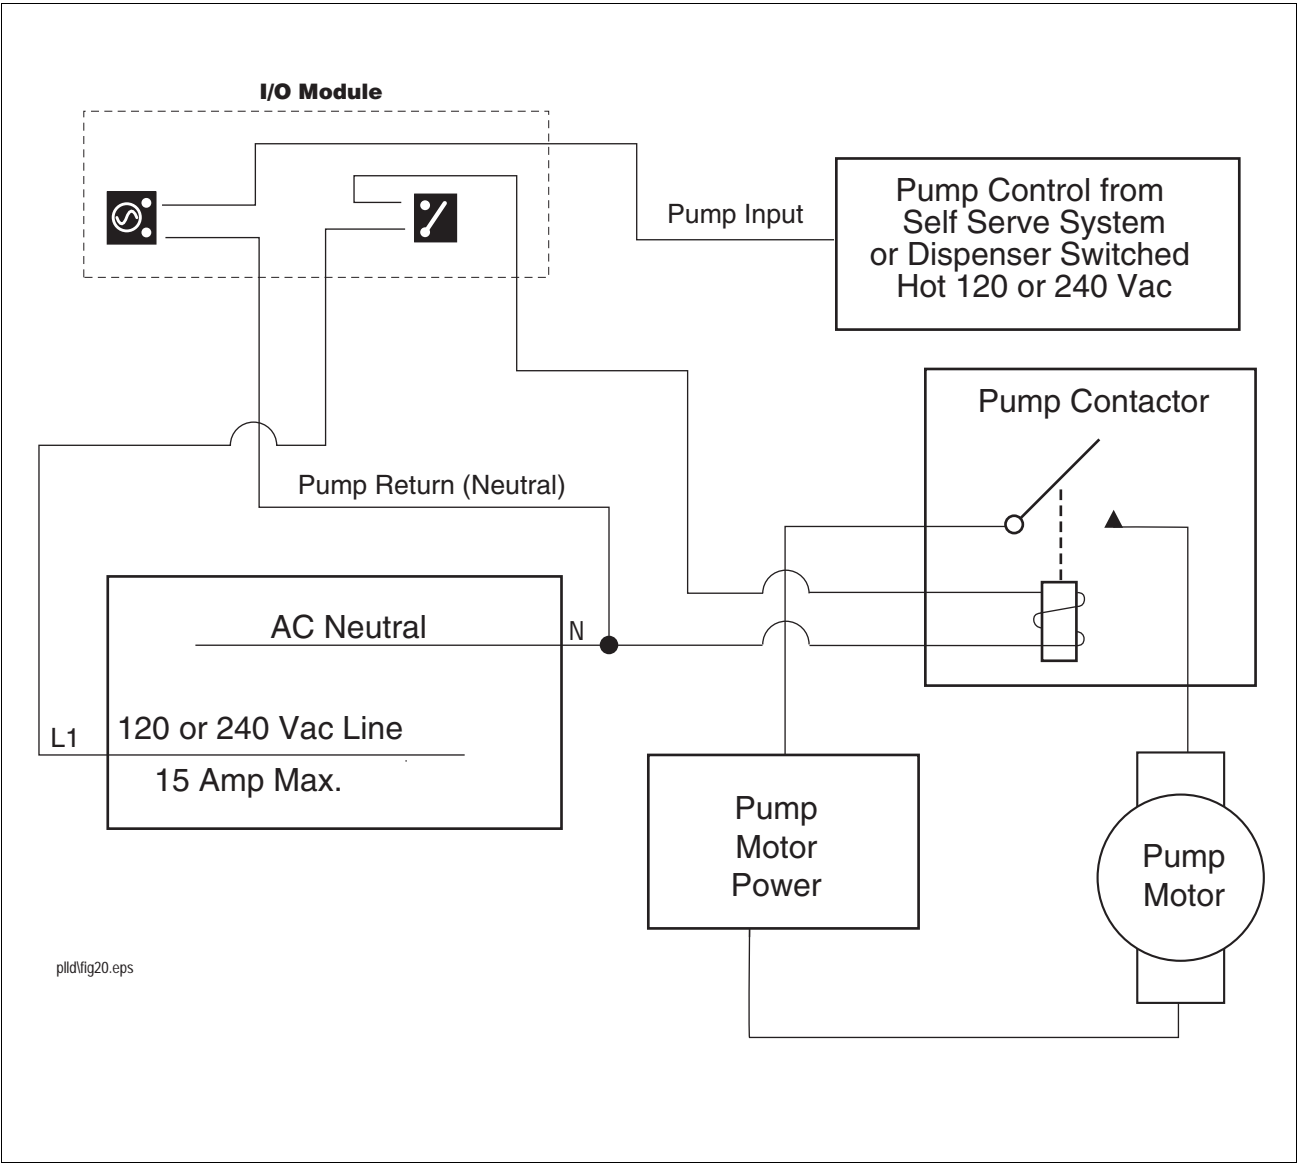

Figure 20. DPLLD pump control diagram for non-Red Jacket relay control box
- Non-Red Jacket (ref. Figure 20)